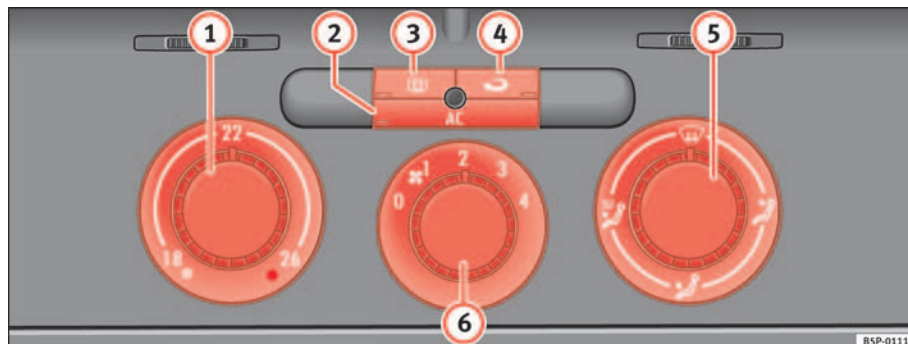

Fig. 123 On the dash panel: Climatic controls
- Turn the temperature selector ⇒ fig. 123 ① clockwise to select the required temperature.